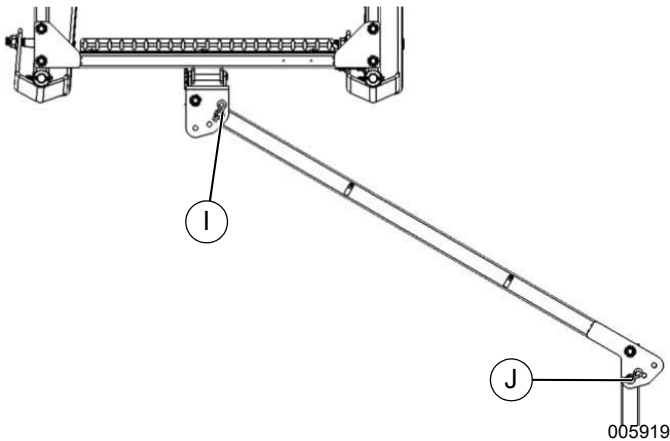

Figure 3-11. Full Offset
- Rotate tow bar extension from no offset to medium offset (G) or full offset (H).
IMPORTANT NOTE: See **Figure 3-11**. Tow bar offset angle (I) and tow bar extension offset angle (J) must match to ensure proper tracking.